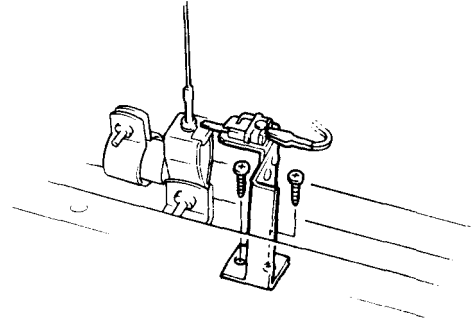

Figure 11 .
- 29) Remove the screws shown in Figure 11, and take out the unit.